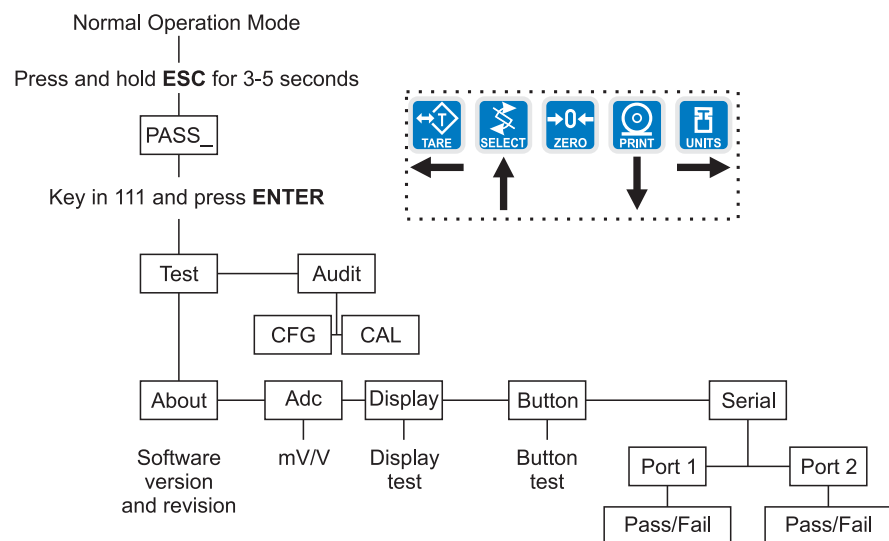

Figure 4.1 User menu flowchart
2. Key in the User menu password = 111 and press **ENTER**. Figure 4.1 shows a flowchart of the User menu items. Use the keys shown in the box in Figure 4.1 to navigate through the menu and choose the items you want.